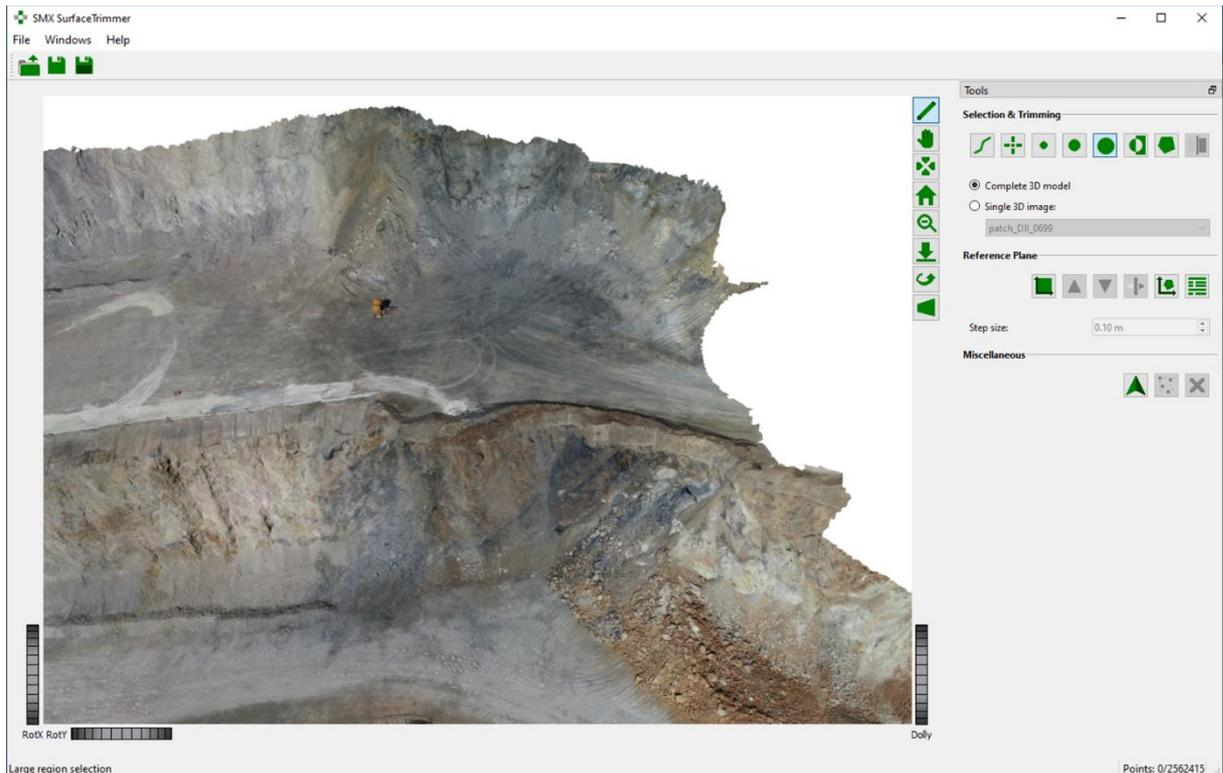

Figure 9: 3D model after deletion of the region
3. Delete region by pressing the “Delete” key or pressing the middle mouse button (Figure 9)